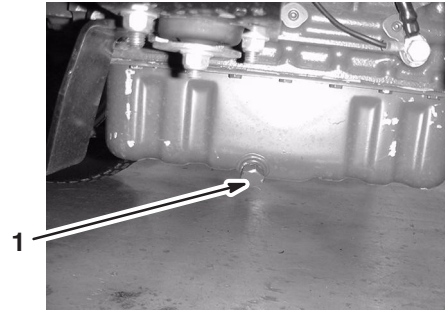

Figure 32
5. Remove the oil drain plug (Fig. 32).